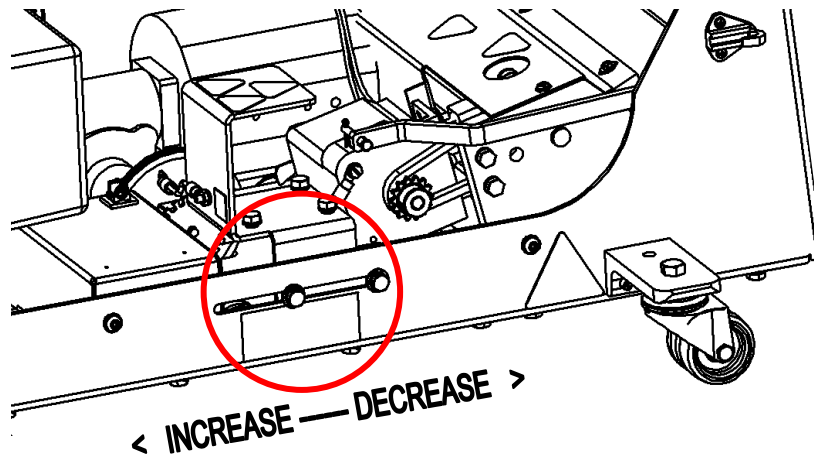

Figure 4-6
2. On each side of the machine frame, locate the buffer brush pressure screws. Figure 4-6 shows the screws on the side near the transfer roller motor.